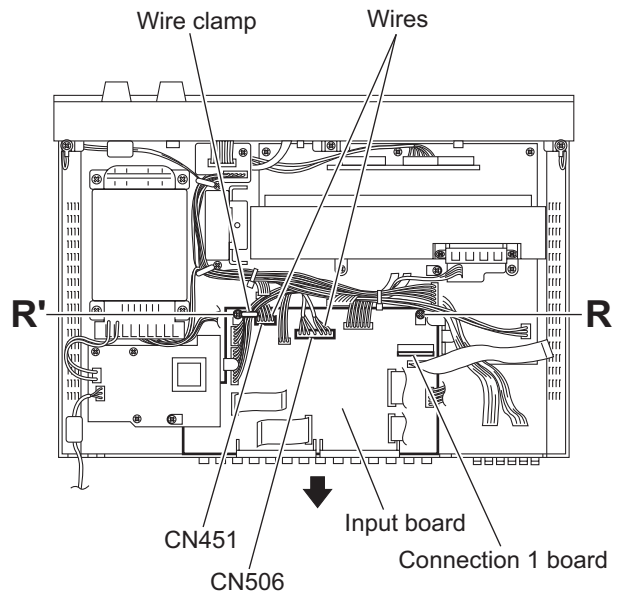

Fig.17
- (4) From the top side of the main body, remove the tie bands bundling the wires. (See Fig.17.)
- (5) Disconnect the wires from the connectors \(CN451, CN506\) on the input board. (See Fig.17.)
- (6) Remove the screw **R** and screw **R'** attaching the input board.
- (7) Take out the input board from the main body in the direction of the arrow. (See Fig.17.)
Remove the connection 1 board on the input board as required. (See Fig.17.)